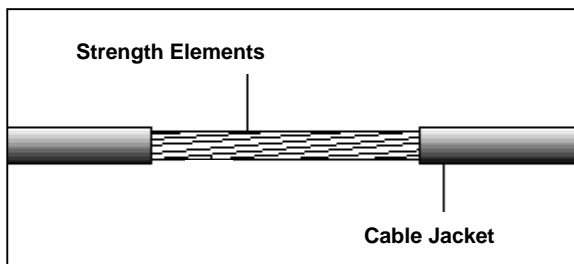

Figure 1
7.4.3 Using the Ripley's RCS-114 or RCS-158 Cable Stripper, make one longitudinal cut along the jacket between the two ring cuts. Using pliers, remove the jacket exposing the strength elements. (Figure 1).